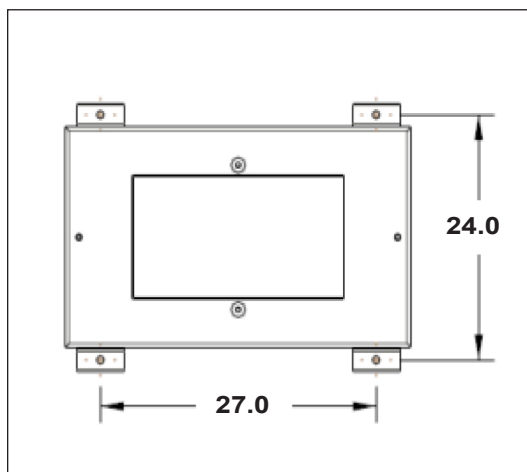

Figure 1
3. Drill holes in concrete and insert anchor bolts into concrete that are aligned with the 3/4 dia. mounting holes on the pedestal. (see Fig.1)